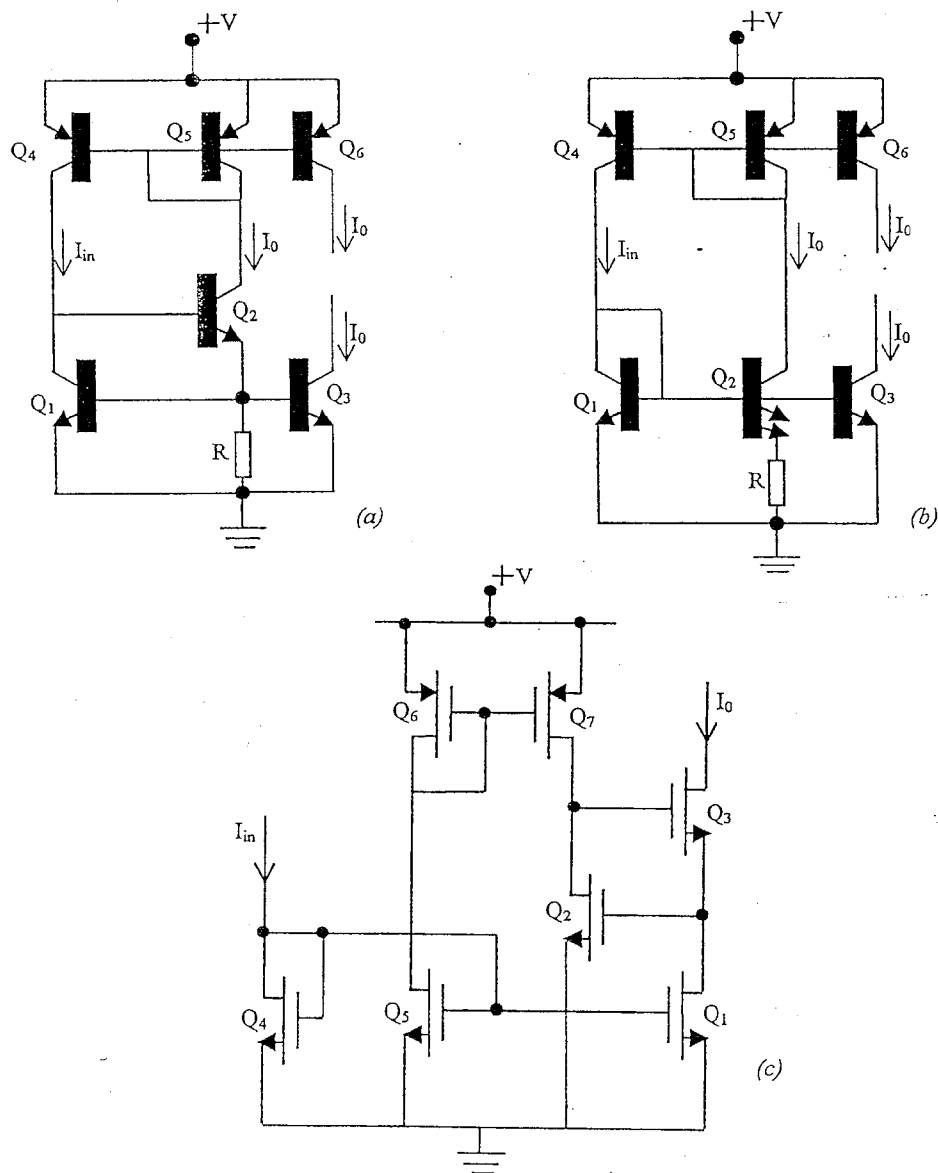

Figure 2
2. Briefly explain the operation of each of the biasing circuits in *Figure 2*. [10]
For the circuits of *Figure 2(a)* and *Figure 2(b)* calculate a value for resistor R to yield an output current I_0 of $10\ \mu\text{A}$ and use this example to show that the circuit of *Figure 2(b)* has a lower fractional temperature coefficient. You may assume that the circuits are operating at room temperature. The forward saturation current of the transistor $I_s = 10^{-14}\ \text{A}$, the temperature coefficient of $V_{BE} = -2\ \text{mV}/^\circ\text{C}$ and R is a polysilicon resistor with a temperature coefficient of $1500\ \text{ppm}/^\circ\text{C}$. [6]
It is likely that on power-up the output currents of *Figure 2(a)* and *Figure 2(b)* will fall into a zero current state. Sketch a suitable start-up circuit for one of these two circuits to ensure this condition will not occur. [3]
Finally, using reasonable engineering approximations, give an expression for the output resistance of the circuit of *Figure 2(c)*. You only need consider transistors Q_1 , Q_2 , Q_3 and Q_7 since the remaining transistors are purely for biasing purposes. [6]